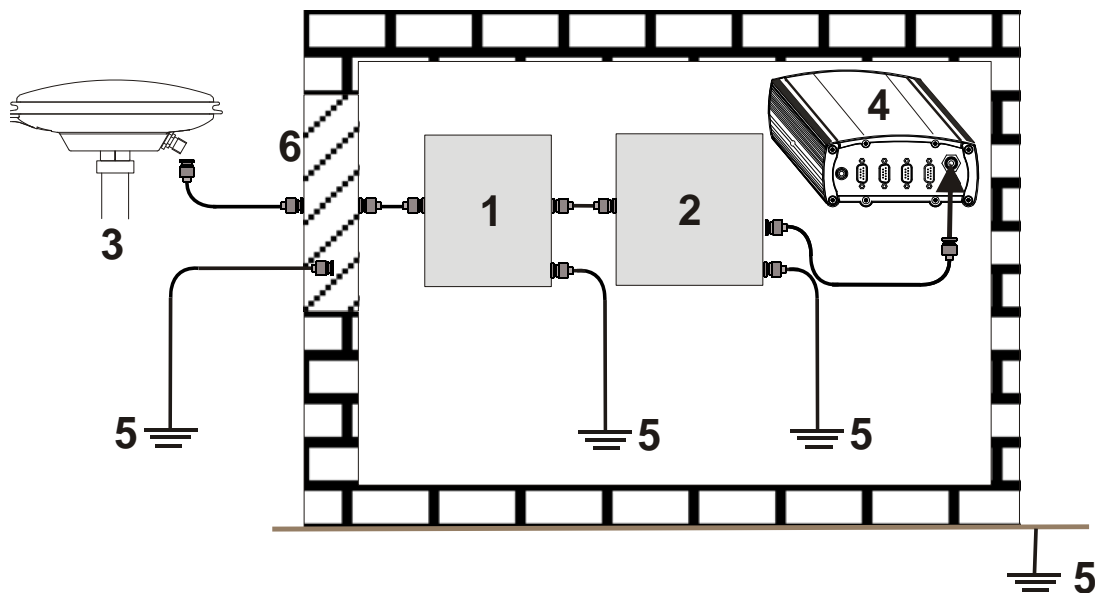

Figure 3: Primary and Secondary Lightning Protection
6. The primary and secondary lightning protections should be as close to the building's entrance as possible. Where feasible they should be mounted onto the grounding plate itself. See also reference 6 in *Figure 3, Primary and Secondary Lightning Protection on Page 13.*